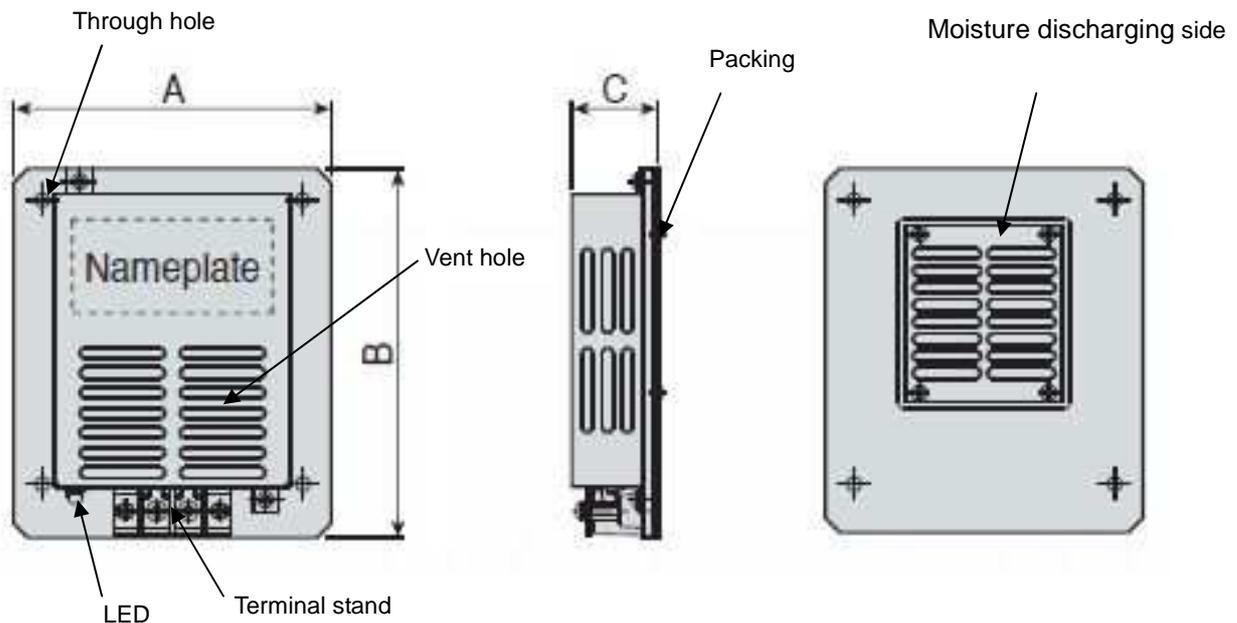

Figure 1
*4 The dimensions of AxBxC in the figure 1.